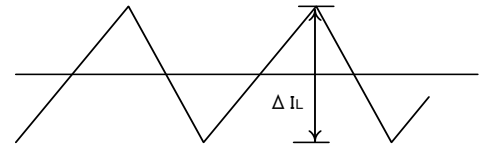

Fig.33 Inductor current
(3) Output voltage setting
The internal reference voltage of the ERROR AMP is 1.0 V. Output voltage is obtained by Equation (4) of Fig. 33, but it should be designed taking about 50 Ω , an error of NMOS ON resistance of SWOUT into consideration.